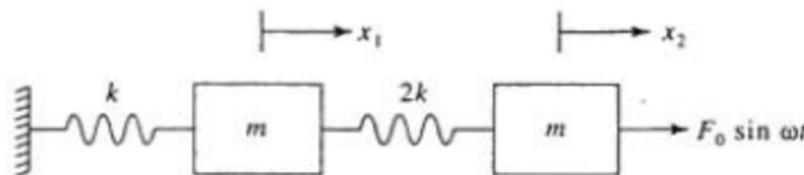

Figure 1
- Determine the steady-state response of the system of Figure 1.